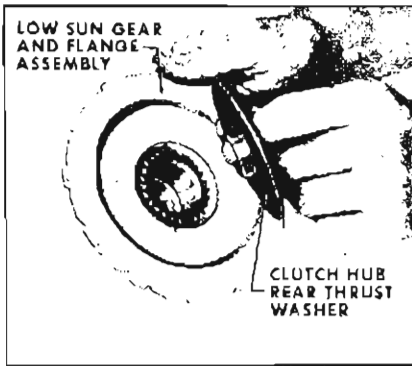

Figure 5-233
10. Install clutch hub rear thrust washer with its flange toward low sun gear and flange assembly. See Figure 5-233.